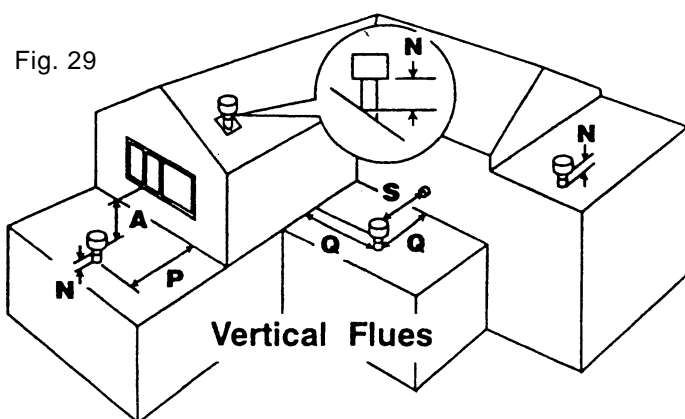

Fig. 29
- Ensure that the maximum permissible flue length is not exceeded (fig. 29).
Measure the vertical distance between the top of the flue (Fig. 29) and the bottom of the flue terminal assembly (Fig. 28). The measurements should be taken from the outer diameter of the flue.